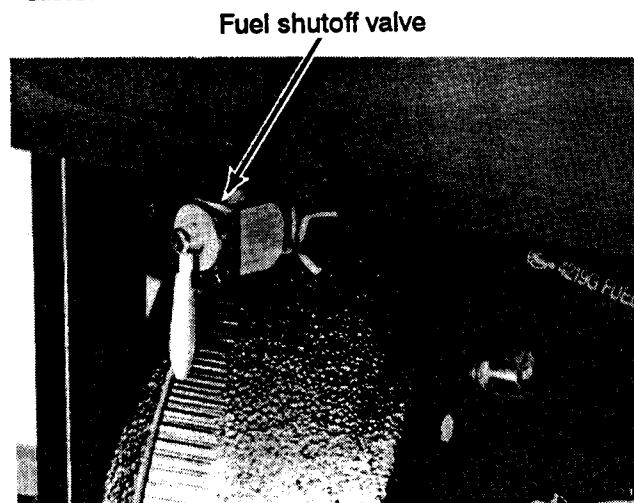

Figure 10. Fuel shutoff valve.
1. Ensure that the fuel shutoff valve on the bottom side of the fuel tank is open (vertical). (Refer to Figure 10).